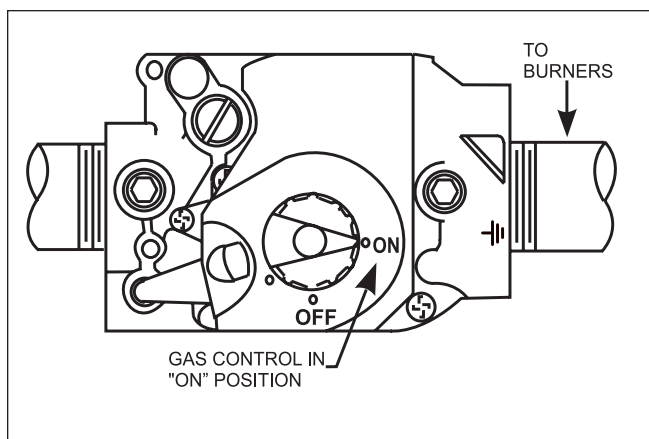

Figure 20. Gas Valve
4. Turn the gas valve control knob counterclockwise to ON (see Figure 20.)